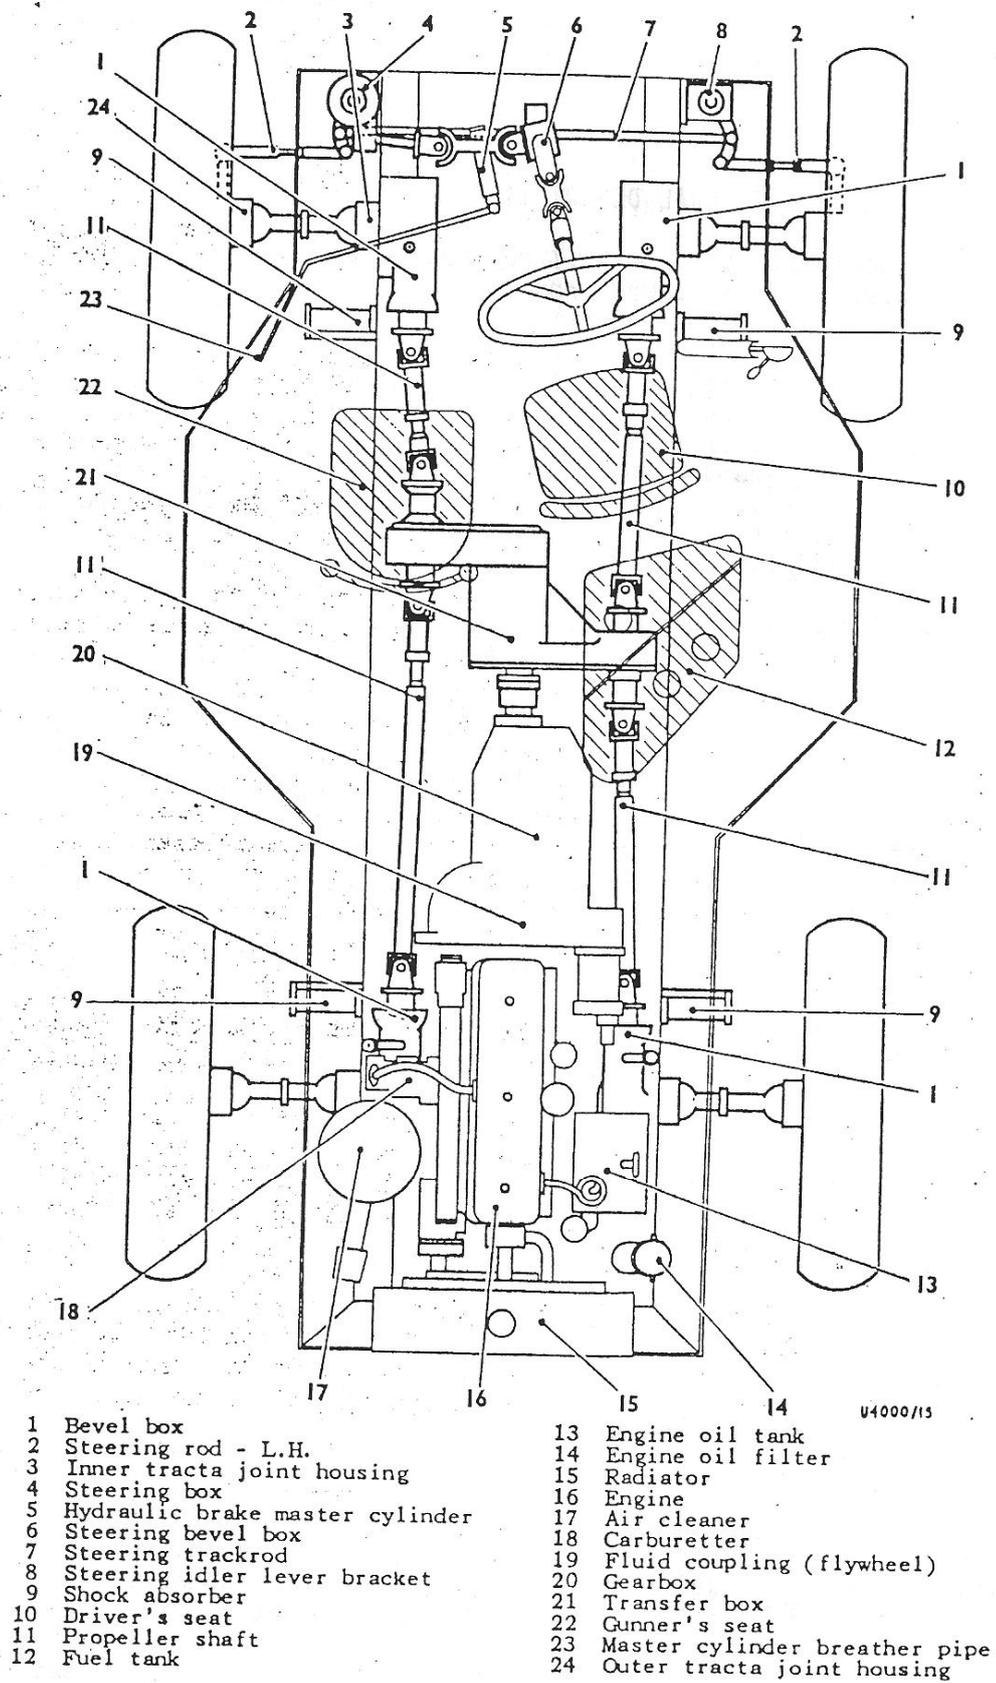

Fig 3 Layout of main components
11. The engine oil tank (Fig 3(13)) and filter (14) are located on the right-hand side, and the radiator at the rear of the engine compartment. Air for cooling is drawn in by a fan, which is belt driven from the rear of the engine, and expelled through the radiator and the louvres at the rear of the vehicle.
12. Power from the engine (Fig 3(16)) is transmitted forward through a fluid coupling (19) to a pre-selective epicyclic type gearbox (20). The gearbox drives a transfer box (21) through a flexible type coupling and the transfer box incorporates a differential and a reverse gear which enables the drive in all gears to be transmitted in a forward or reverse direction of vehicle motion. The drive from the transfer box is transmitted through universal jointed propeller shafts (11) to the bevel boxes (1) which in turn drive the front and rear wheels through tracta type universal joints (3) and (24).